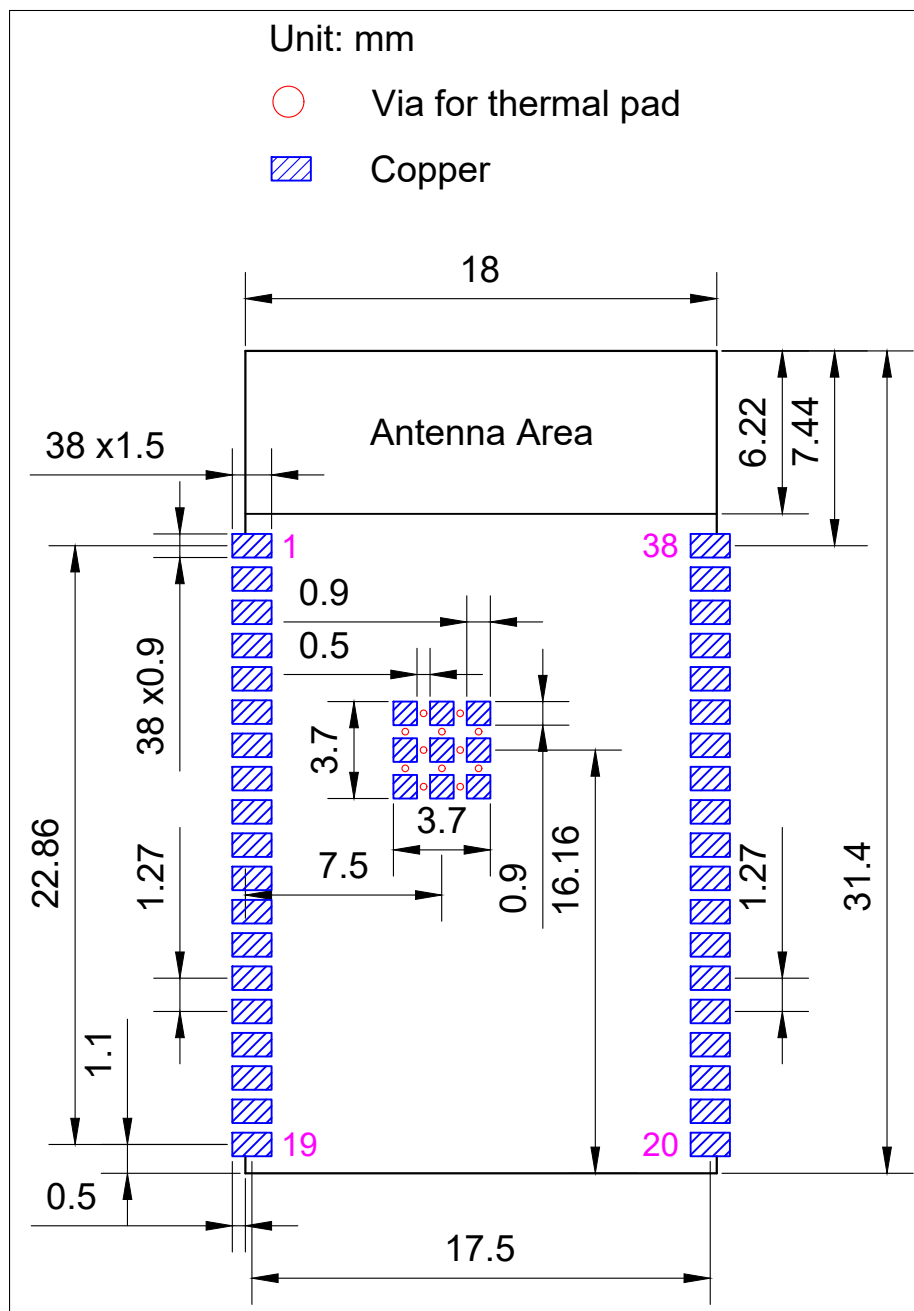

Figure 11: Recommended PCB Land Pattern
- Figures for recommended PCB land patterns with all the dimensions needed for PCB design. See Figure 11 *Recommended PCB Land Pattern*.
- Source files of recommended PCB land patterns to measure dimensions not covered in Figure 11. You can view the source files for ESP32-WROVER-B and ESP32-WROVER-IB with Autodesk Viewer.